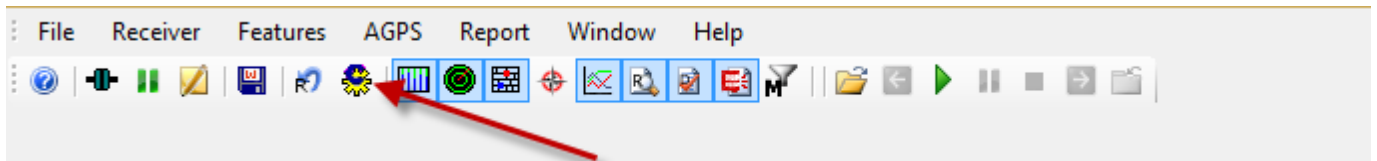

Figure 9 - “Set Location Tech Constrains” button
2. When in OSP protocol, press the “Set Location Tech Constrains” button on the top panel (See figure 9).